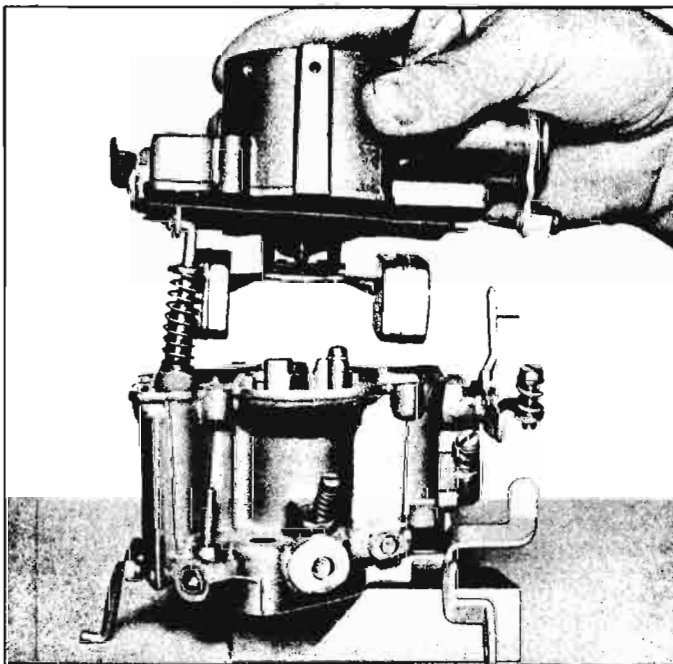

Fig. 9-17—Removing Bowl Cover
3. Remove six remaining bowl cover attaching screws and lockwashers (fig. 9-3), then remove bowl cover assembly and gasket (fig. 9-17).